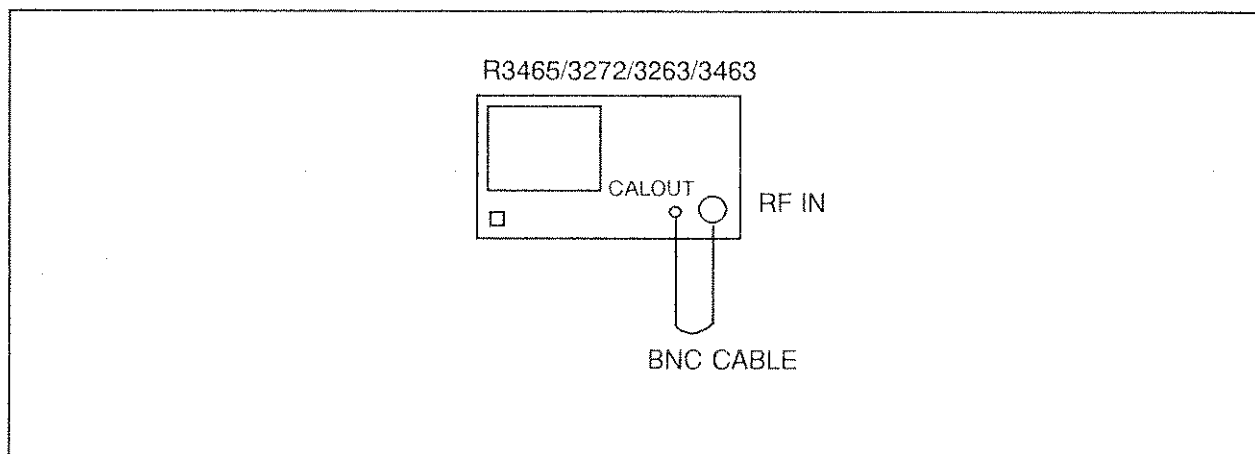

Figure 1-5 Resolution Bandwidth Accuracy/Selectivity Setup
(1) Connect the R3465/3272/3263/3463 CALOUT to the RF IN as shown in Figure 1-5.